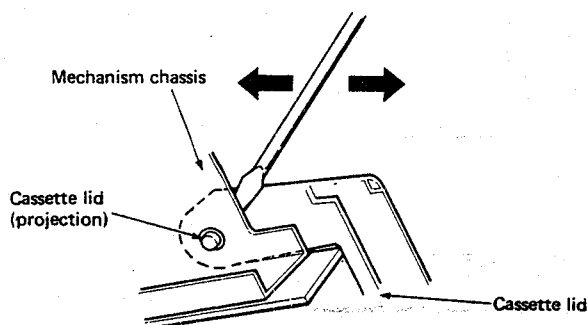

Fig. 3
3) Insert a (—) screwdriver between the cassette lid and the mechanism chassis, press it in the direction of the arrow to remove the projection of the cassette lid. (Fig. 3). Then, the cassette lid can be removed.